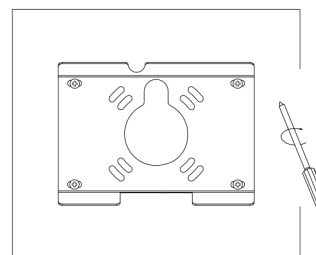

Figure 2-3
- 3.Align mounting bracket with hole; tighten screws. (Figure 2-3)